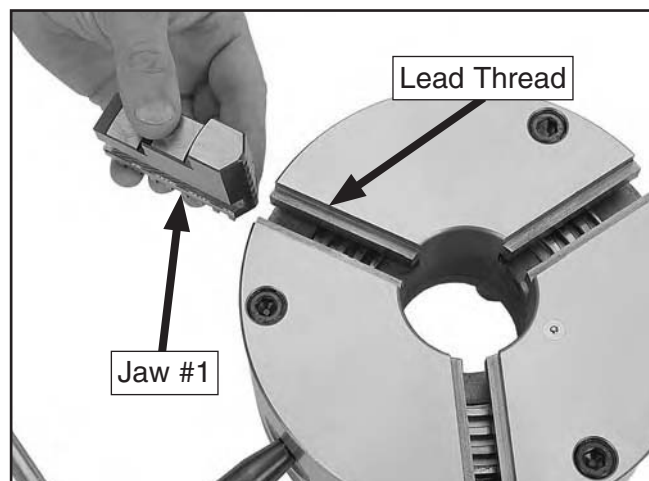

Figure 44. Inserting jaw #1 into the jaw guide.
6. Rotate the chuck key clockwise until you see the tip of the scroll gear lead thread begin to enter a jaw guide (see **Figure 44**).